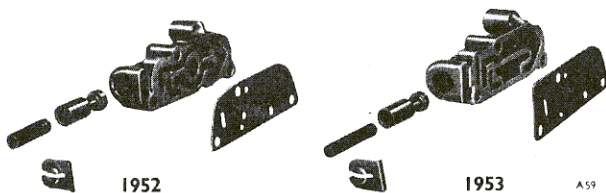

Fig. 50 Overspeed valves and oil guide plates
Using a screwdriver inserted through the slot of the overspeed valve spring retainer (55), compress the spring and extract the retainer. Withdraw the overspeed valve and spring (57 and 56). Figure 50 shows the difference between '1952' and '1953' overspeed valve assemblies.